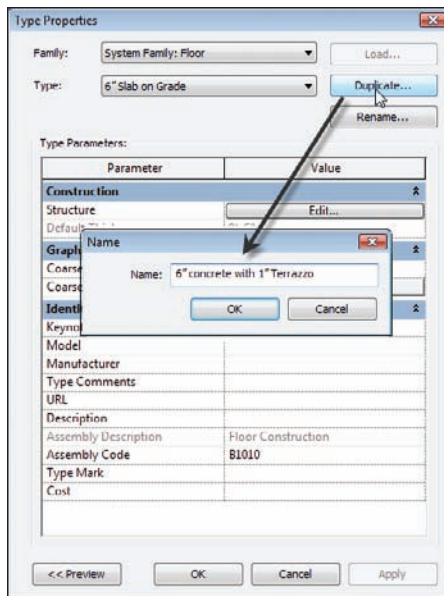

FIGURE 6.19 Duplicating the existing floor
6. Call the new floor 6" concrete with 1" Terrazzo (see Figure 6.19).